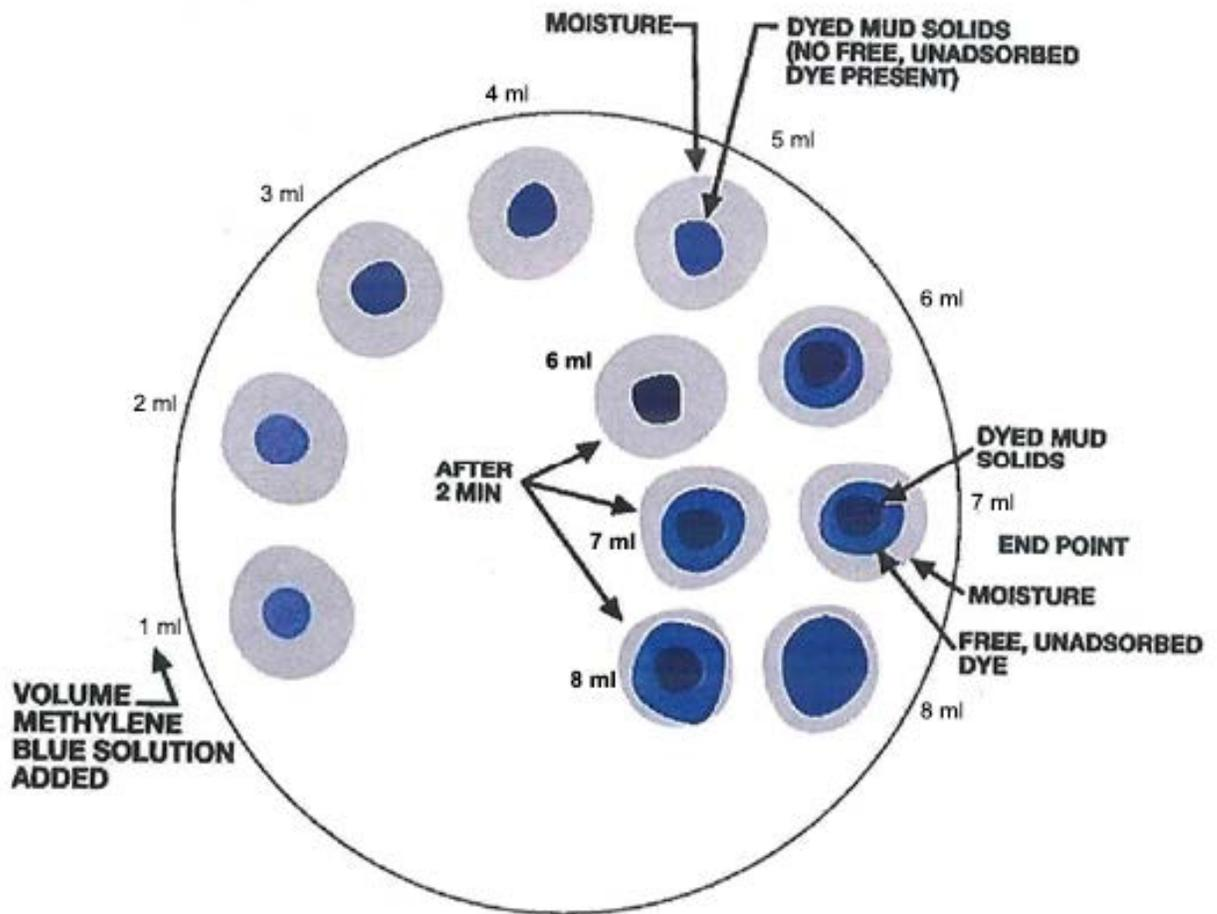

Figure 4-1 Spot Test for End Point of Methylene Blue Titration
| Figure 4-1 | Spot Test for End Point of Methylene Blue Titration | 10 |
Drilling fluids frequently contain substances, in addition to reactive clays, that absorb methylene blue. Pretreating with hydrogen peroxide may be necessary to remove the effect of organic materials, such as lignosulfates, lignites, cellulosic polymers, or polyacrylates. Methylene blue is added to the pre-treated sample until saturation which results in a dye halo surrounding the solids. See Figure 4-1.
Methylene blue is added to this sample until saturation, noted by the dye halo surrounding the solids suspension. See Figure 4-1.
Refer to Figure 4-1 to assist in determining the methylene blue endpoint.
7. Dip a stirring rod into the flask while the solids are suspended, and then remove it. Place a drop of the liquid on the filter paper. The initial endpoint is reached when the dye appears as a blue ring surrounding the dyed solids (Figure 4-1).